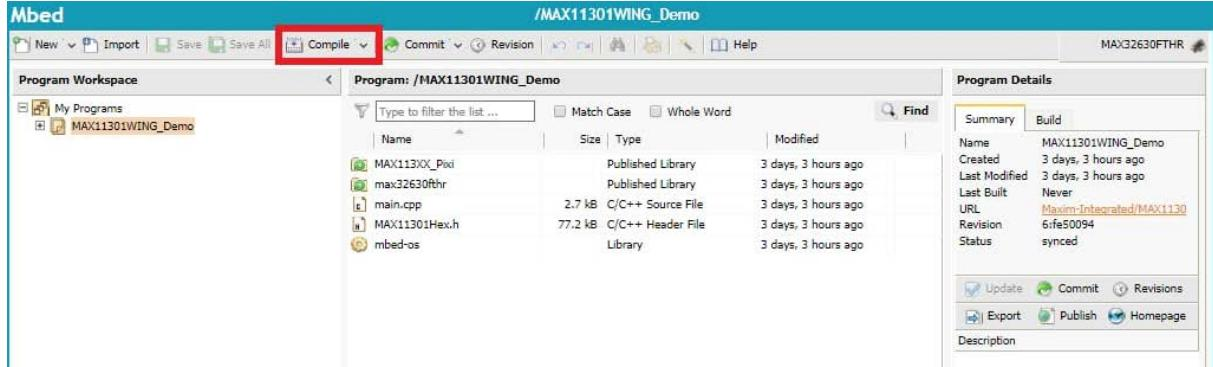

Figure 8. Highlights the Compile command button in the Mbed compiler with a red box.
6. With the MAX11301WING_Demo program selected in the program work space, click the **Compile** button in the command banner at the top of the screen. **Figure 8** highlights the **Compile** button. This initiates the download of the program's binary file.